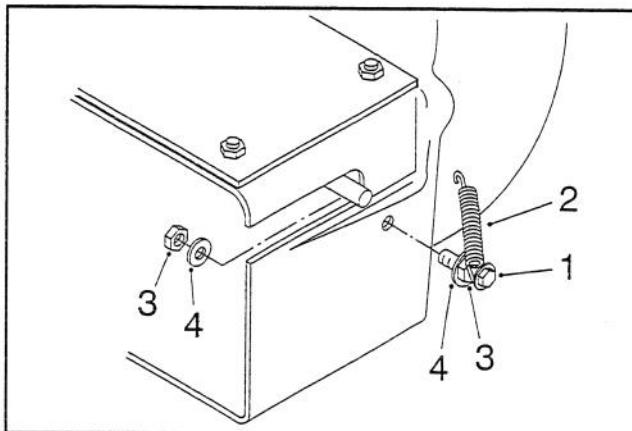

Figure 5
4. Insert a #10 x 3/4" screw through the extended loop at the end of the tension spring (Fig. 5). Screw one #10 nut to within 1/8 inch from the screw head, allowing the spring to pivot freely (Fig. 5).
5. Slide one 7/32" flat washer onto the spring and screw assembly (Fig. 5). Insert the screw through the hole in the blower housing from the outside and secure in place with another flat washer and #10 nut (Fig. 5). Tighten the nut.